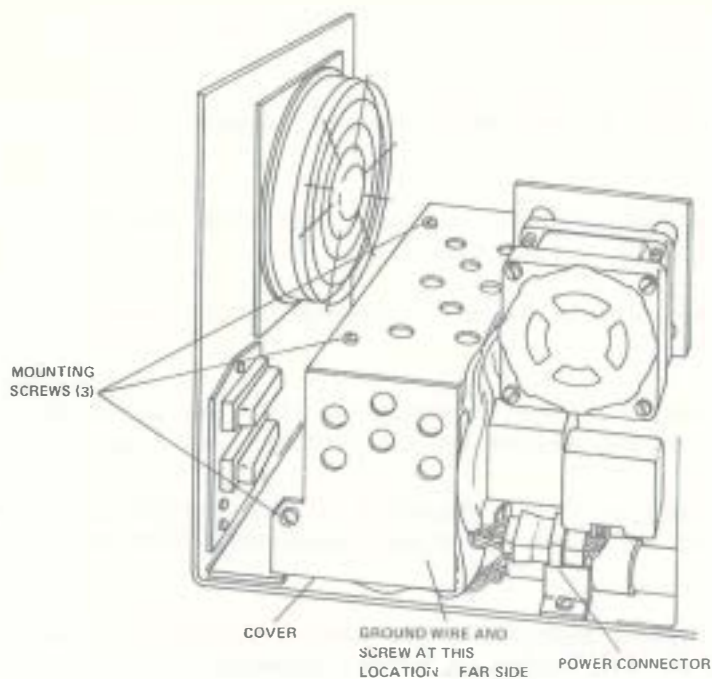

Figure 5-28. 8" Diskette Drive Power Supply Cover
2. Remove the three screws securing the power supply cover. Remove the power supply cover to the side. Only the ground wire terminal remains attached to the cover. See Figure 5-28.
4. Install the power supply cover with three mounting screws, securing the cover in place. See Figure 5-28.